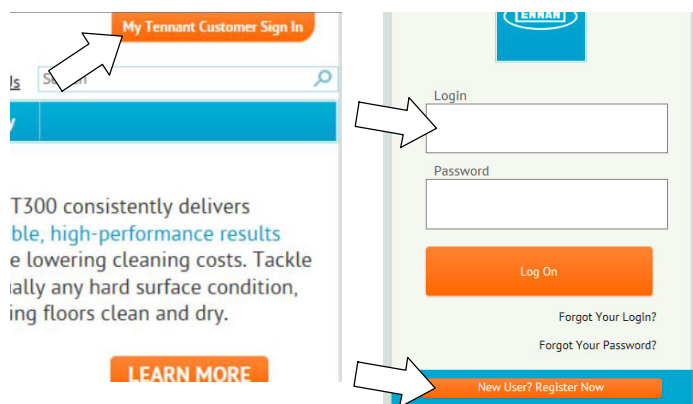

Fig. 37
1. Log in to the “My Tennant” website or register as a new user (Figure 37).